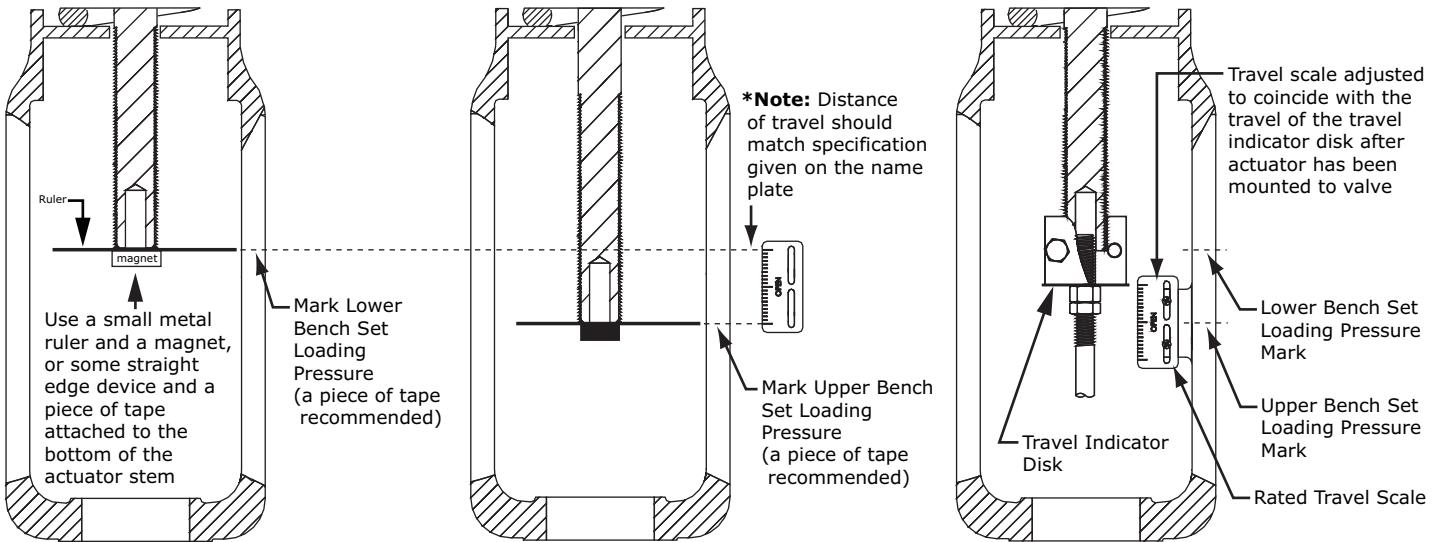

Figure 5 Bench Set Travel Adjustment Diagram
If stem travel starts before lower bench set limit: Adjust the spring adjuster (Key 2) to the left (clockwise) to decrease the bench set pressure required. It may be necessary to lower the loading pressure to make adjustments to the spring adjuster. Refer to Figure 5.
If stem travel starts after the lower bench set limit: Adjust the spring adjuster (Key 2) to the right (counter-clockwise) to increase the bench set pressure required. It may be necessary to lower the loading pressure to make adjustments to the spring adjuster. Refer to Figure 5.
- 7 Increase the loading pressure to the upper bench set limit, the actuator stem (Key 9) should lower towards the direction of the valve (if a valve were installed). Mark the position of the bottom of the actuator stem using the method shown in Figure 5 or equivalent.